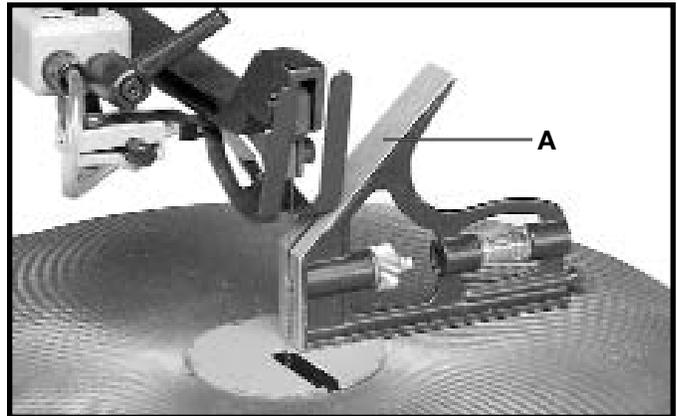

Fig. 22
1. Using a square (A) Fig. 22, place one end of the square on the table and the other end against the blade, as shown. Check to see if the table is 90 degrees to the blade.